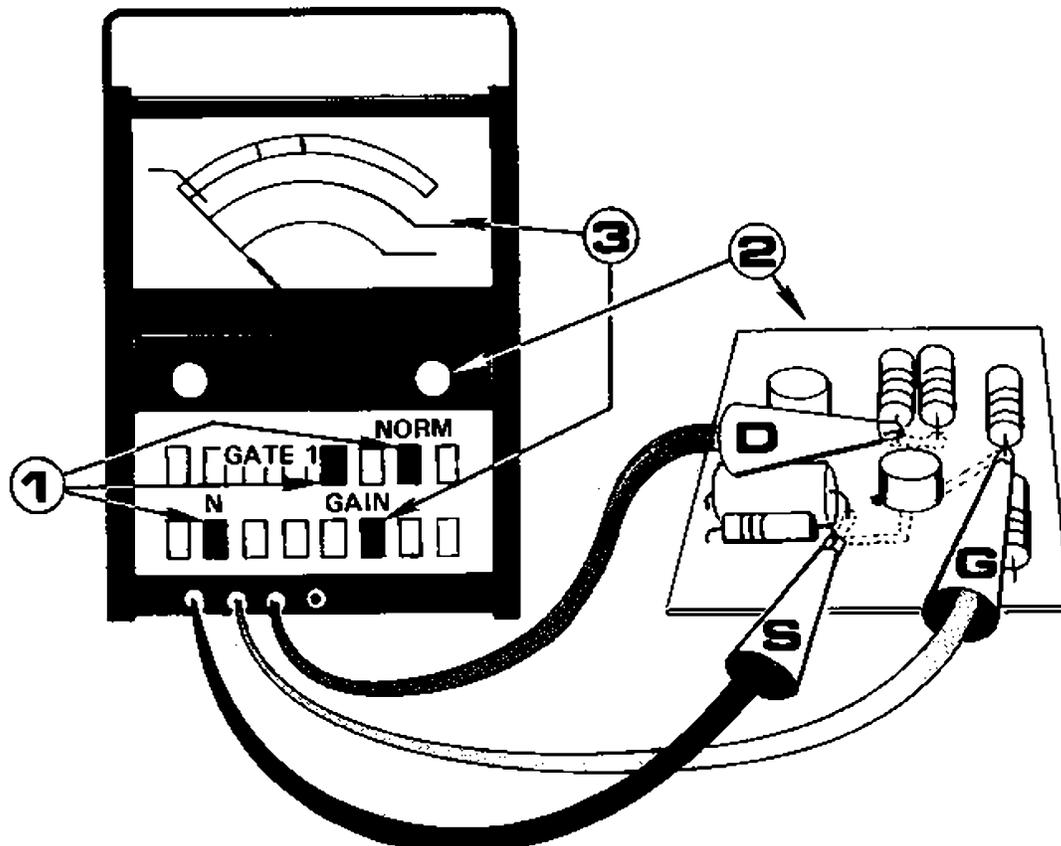

Fig. 14. FET Mutual Conductance Test
2. Connect the FET to the TF166 following the precautions for handling MOS or IGFET outlined in NOTE 1 on testing FET's. (See Fig. 14). On dual gate FET's be sure to connect both gate leads. If the second gate lead is not connected, the FET will test as having an open gate. Adjust the GAIN CAL control to position the meter pointer to the GAIN CAL line on the meter. (NOTE: The GAIN CAL control operation is reversed when testing P-channel FET's).